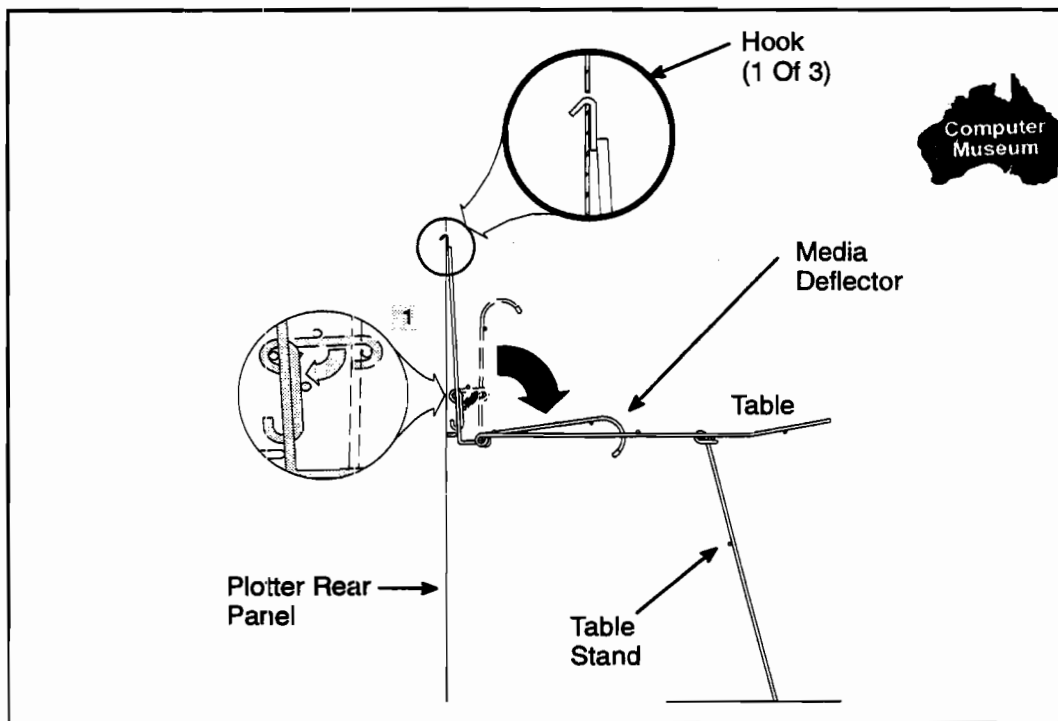

Figure 3-14. Stacker Installation (Model 250/255 Only)
1. Hang the stacker against the rear panel of the plotter by inserting the 3 hooks into the 3 slots at the top of the rear panel. See Figure 3-14.
3. If plots to be made are C-, D-, or E-size, hook the media deflector into the vertical position shown in dashed-lines in Figure 3-14.
4. If the plots are smaller than C-size, unhook the media deflector and place it in the horizontal position as shown in solid-lines in Figure 3-14.